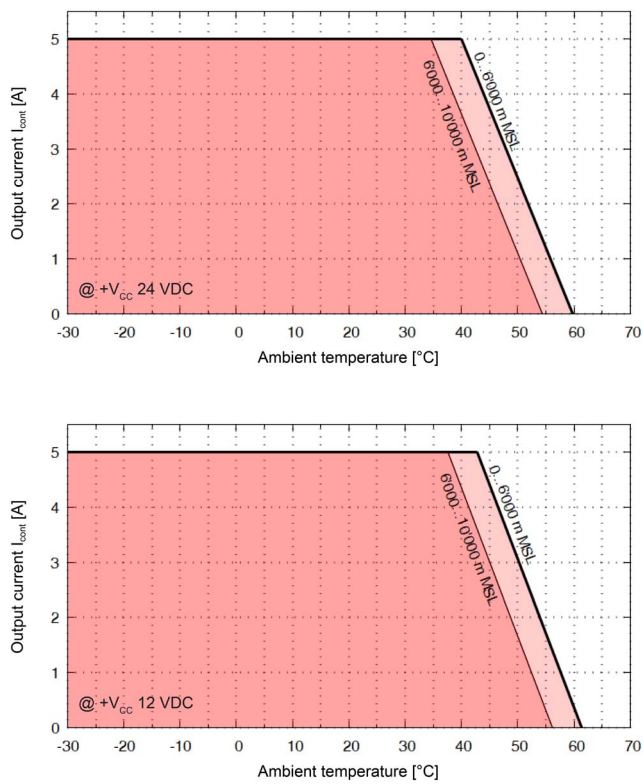
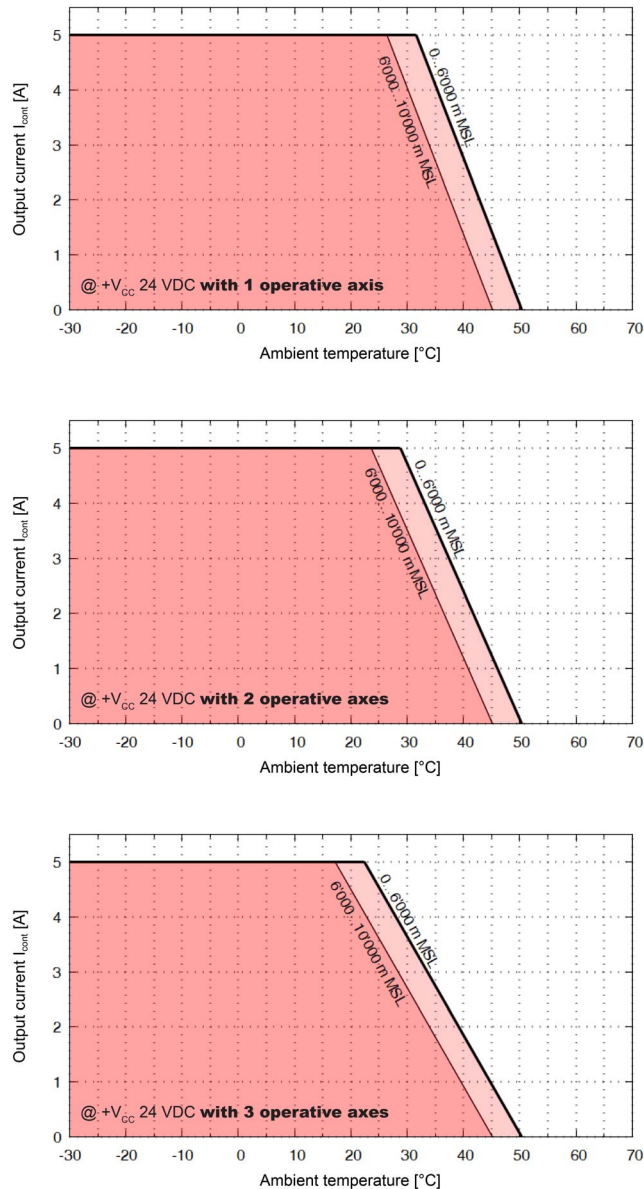

Figure 2-2 Derating of output current – Micro
Figure 2-3 Derating of output current – Compact
Compact	+25...+50 °C Derating -0.2 A/°C (→Figure 2-3)
Extended range (1)	6'000...10'000 m MSL Derating (→Figure 2-2 and Figure 2-3)